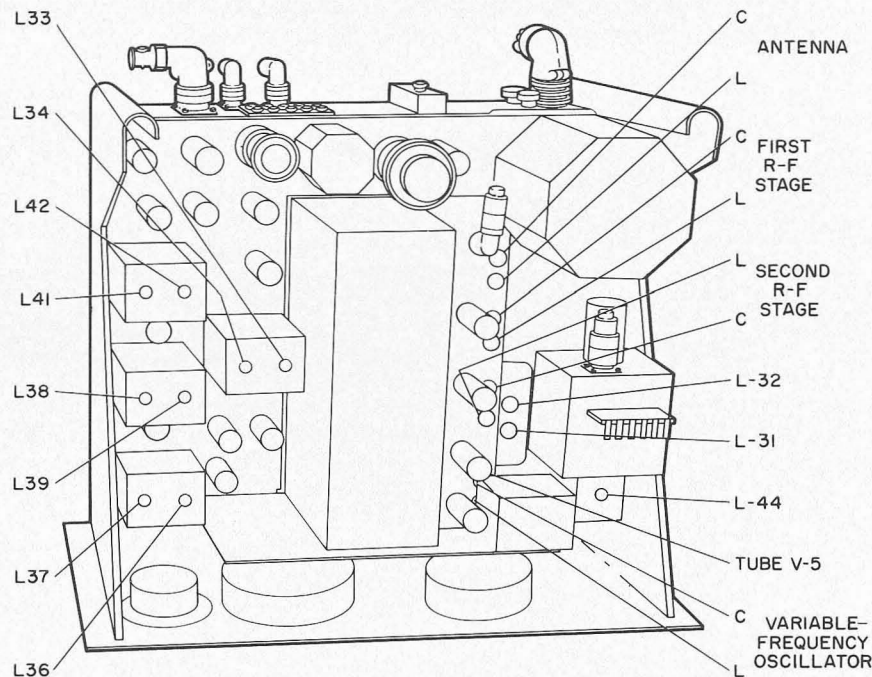
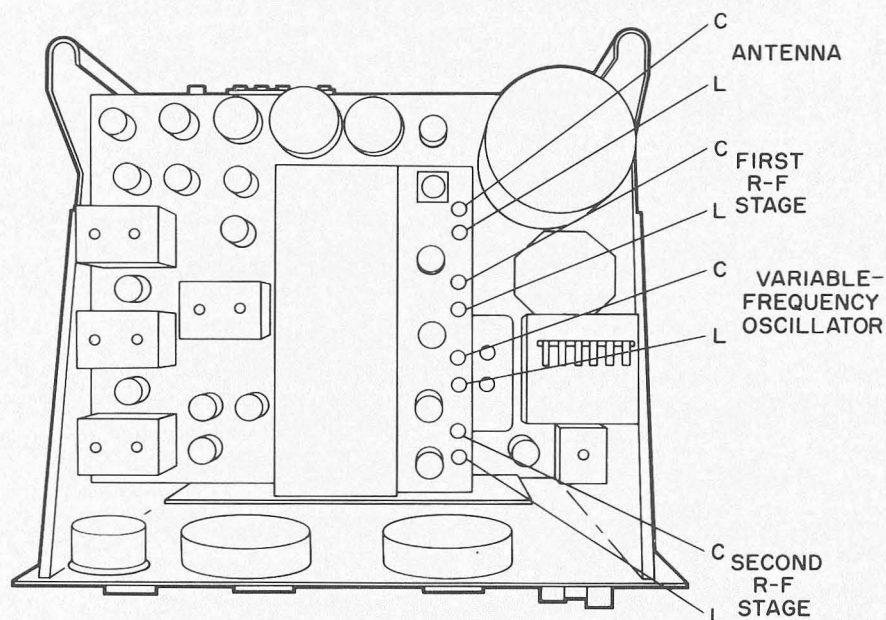

Figure 2-1. Radio Receiver SP-600-JX-17, Top View
Figure 2-2. Radio Receiver SP-600-JX-21, Top View of R-F Section
- (1) Disconnect the power line plug of the radio receiver from the power source.
- (2) Disconnect the loudspeaker from the AUDIO OUTPUT terminals.
- (3) Disconnect the antenna cable from the antenna input connector.
- (4) Disconnect the BFO, IFO, DIODE OUTPUT, and AVC connections from their respective terminals.
- (5) Remove the eight screws holding the radio receiver in the relay rack and remove the receiver from the rack.
- (6) Loosen the four thumb screws holding the top cover to the radio receiver and remove the cover.
- (7) Connect the 600-ohm, 2-watt resistor between the AUDIO OUTPUT terminals on the rear of the radio receiver.
- (8) Remove the shield from tube V-5 (figure 2-1) and remove the tube.
- (9) Plug tube V-5 into the tube socket test adapter and plug the adapter into the tube socket on the radio receiver.
- (10) Insert the power line plug of the radio receiver into a 115-volt, 60-cycle power source.
- (11) Insert the power line plug of Electronic Multimeter TS-505()/A into a 115-volt, 60-cycle power source.
- (12) Connect the black test lead to the COMMON binding post of the multimeter.
- (13) Connect an alligator clip to the other end of the black test lead and clip the lead to one side of the 600-ohm resistor connected between the AUDIO OUTPUT terminals on the rear of the radio receiver.
- (14) Connect an alligator clip to the a-c probe of the multimeter and clip the probe to the other side of the 600-ohm resistor.
- (15) Set the RANGE switch on the multimeter to the 40V/R x 10K position.
- (11) Set the MULTIPLIER switch on the signal generator to the 10 position and rotate the MICROVOLTS control on the signal generator fully clockwise.
- (12) Adjust the CARRIER CONTROL on the signal generator until an indication of 100 is obtained on the signal generator output meter.
- (13) Adjust the MICROVOLTS control on the signal generator until an indication of 20 volts is obtained on the multimeter.
- (14) Set the METER READS switch on the signal generator to the % MOD position and the MOD SELECTOR switch on the signal generator to the 400 cycle position.
- (15) Adjust the % MODULATION control on the signal generator until an indication of 30 is obtained on the lower scale of the signal generator output meter.
- (16) Set the METER READS switch on the signal generator to the RF position.
- (17) Adjust, in turn, coils L-42, L-41, L-39, L-38, L-36, and L-32 (figure 2-1) until a maximum indication is obtained on the multimeter.
- (18) Set the SELECTIVITY switch on the radio receiver to the .2 XTAL position and adjust the signal generator tuning dial until a maximum indication is obtained on the multimeter.
- (19) Set the SELECTIVITY switch on the radio receiver to the 3 NON-XTAL position and repeat step b(17).
- (20) Set the SELECTIVITY switch on the radio receiver to the 1.3 XTAL position and adjust coil L-37 (figure 2-1) until a maximum indication is obtained on the multimeter.
- (21) Set the MOD-CW switch on the radio receiver to the CW position.
- (22) If Radio Receiver SP-600-JX-17 is being aligned, set the BFO-AVC switch to the INT BFO - FAST position.
- (23) Set the BEAT OSC control on the radio receiver to 0 and the MOD SELECTOR switch on the radio receiver to the OFF position.
- (24) Allow 15 minutes for the receiver to warm up then adjust coil L-44 (figure 2-1) until an indication of zero volts is obtained on the multimeter.
- (25) Rotate the CARRIER CONTROL on the signal generator fully counterclockwise and the MICROVOLTS control on the signal generator fully clockwise.